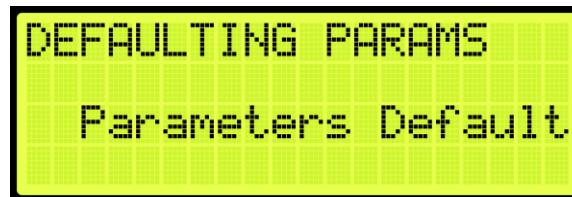

Figure 473: DEFAULTING PARAMS Menu – Parameters Defaulted
- When the system has completed defaulting all parameters, the DEFAULTING PARAMS menu displays Parameters Defaulted (See Figure 473).
6. When the system has completed defaulting all parameters, the DEFAULTING PARAMS menu displays Parameters Defaulted (See Figure 473).